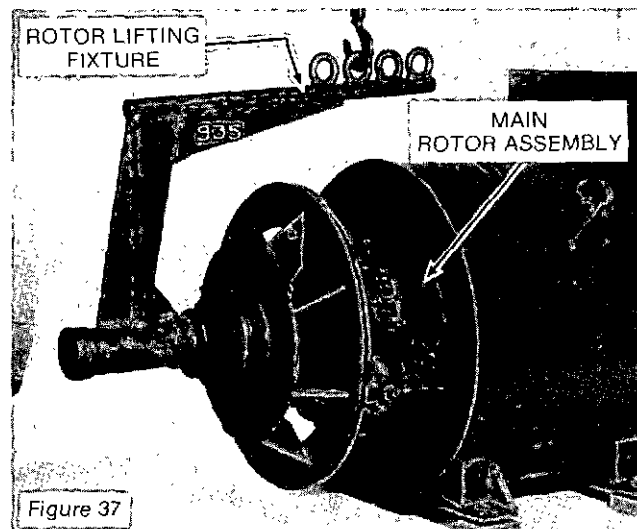

Figure 37
- Using a rotor lifting fixture and a suitable hoist, carefully install the rotor assembly into the main stator assembly through the drive end. (See Figure 37.) Carefully feed the rotor leads through the front end bracket shaft hole as the rotor is installed.